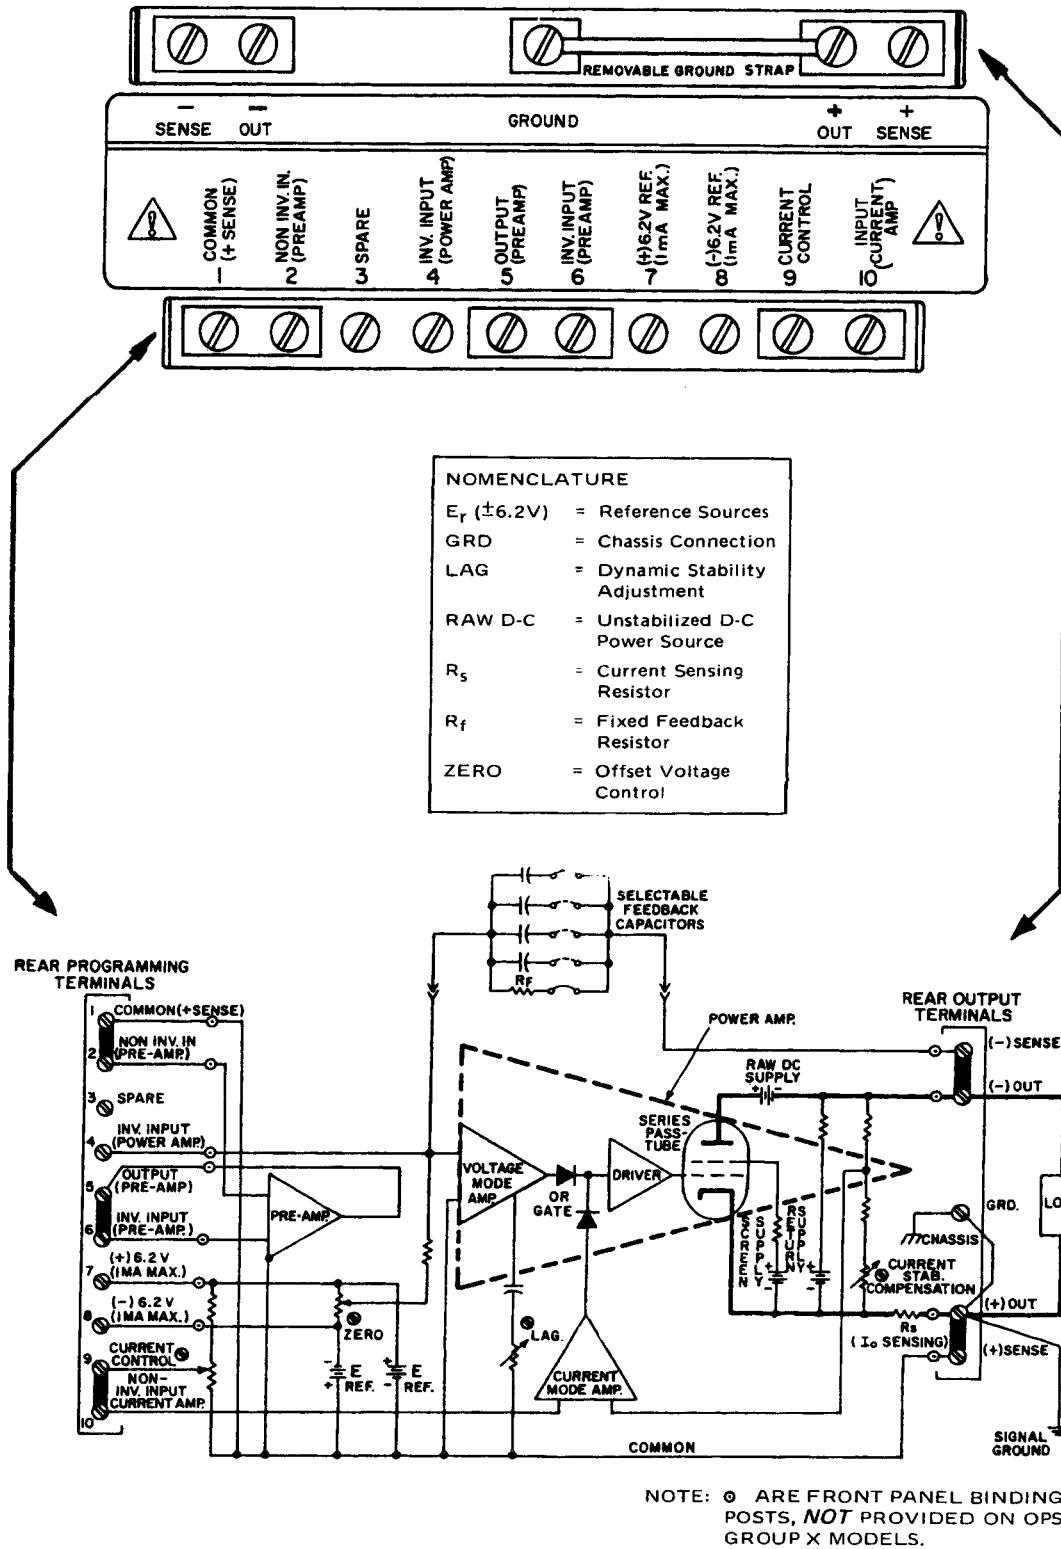

FIG. 3-1 ACTUAL OPS REAR TERMINATIONS (TOP) AND SIMPLIFIED SCHEMATIC DIAGRAM (BELOW)
SEE SECTION III, FIG. 3-1
**NOTE:** THE FUNCTIONAL CHECK MAY BE PERFORMED BY CONNECTING TO THE FRONT PANEL BINDING POSTS INSTEAD OF THE REAR TERMINALS. SEE SECTION III, FIG. 3-1.
- a) LOAD CONNECTION (I). The basic interconnection between the OPS and the load are shown in FIG. 3-1. The load wire size for the 2-wire connection shown should be as large as practicable to keep the series resistance and inductance low. In addition, the load wire pair should be tightly twisted, to reduce possible "pick-up" from stray magnetic fields. The basic 2-wire connection is useful where the voltage drop in the load wires is of minor consequence, as for example, operation into a constant load or in a constant current operating mode.
d) DIAGRAMS. Application and test setup diagrams on the following pages show the symbolic and simplified representation of the OPS GROUPS IX and X Power Supply Circuit. The terminal numbers shown in these diagrams correspond with the actual terminal numbers on the two barrier-strips located at the rear of the OPS (refer to FIG. 3-1) NOTE: GROUP IX OPS MODELS HAVE FRONT PANEL TERMINALS, DUPLICATING MOST OF THE REAR TERMINAL FUNCTIONS (SEE FIG. 3-1) THE FRONT PANEL TERMINALS ARE NOT SHOWN IN SUBSEQUENT DIAGRAMS IN THIS SECTION